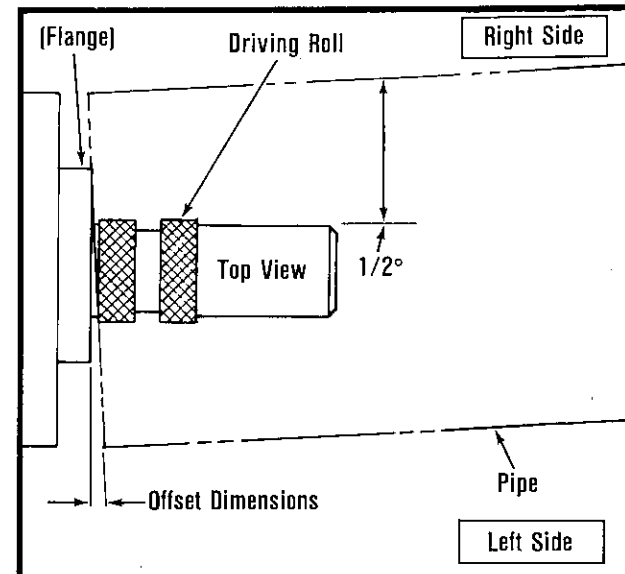

Figure 23. Pipe and Pipe Stand Offset
5. Slightly offset (approximately  $\frac{1}{2}$  degree) pipe and Pipe Stand away from Roll Groover Handwheel (Figure 23).
**Warning:** If pipe begins to "WALK OFF" the Drive Roll, stop machine, level pipe and check the  $\frac{1}{2}$  degree offset dimension (Figure 23).
1. If pipe tends to "WALK OFF" Drive Roll, increase Offset dimension (Figure 23).
2. If Drive Roll Flange shaves pipe end, decrease Offset dimension (Figure 23).
6. If Power Drive is run in REV switch position, the 1/2 degree Offset dimension (Figure 23) is reversed (i.e. pipe contacts drive roll flange on operator's side, offset is opposite operator).